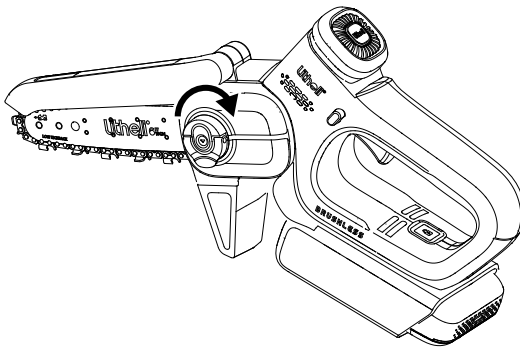

Fig. 7
5. Fit the chain cover and tighten it by turning the chain cover locking knob clockwise until it is tight. Push down the pull ring to lock it in place. (Fig. 7)